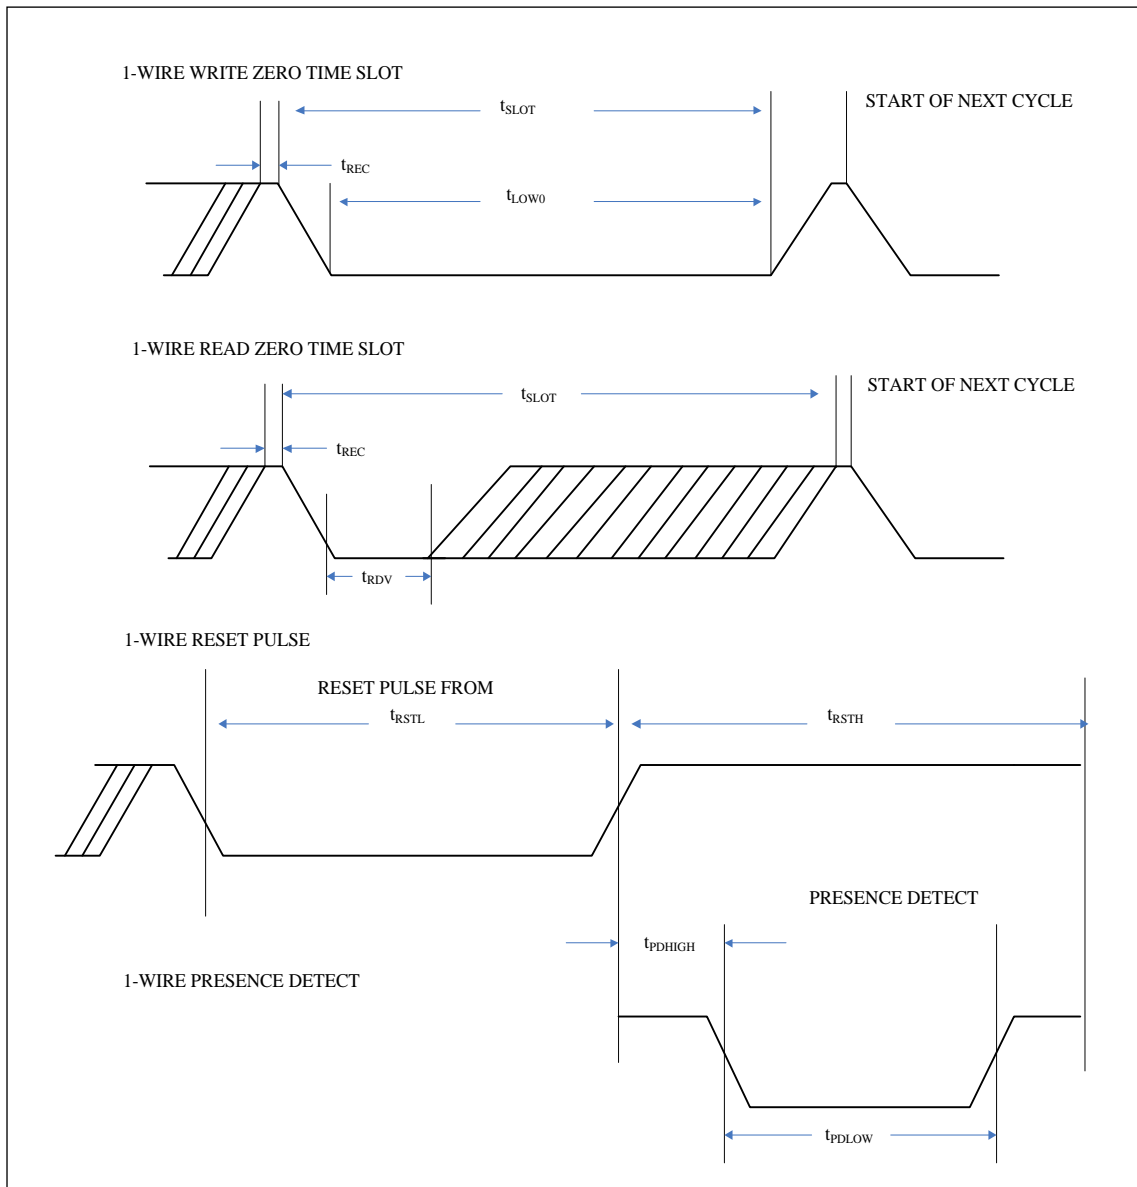

Figure10. Timing Diagrams
- (1) Refer to timing diagrams in Figure 10.
- (2) Under parasite power, if $t_{RSTL} > 960\mu s$, a power on reset may occur.